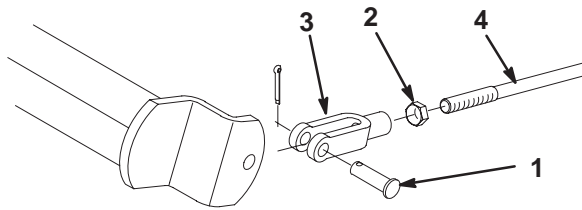

Figure 40
2. Loosen the jam nut and adjust the clevis accordingly (Fig. 40).
3. Assemble the clevis to the brake shaft (Fig. 40).